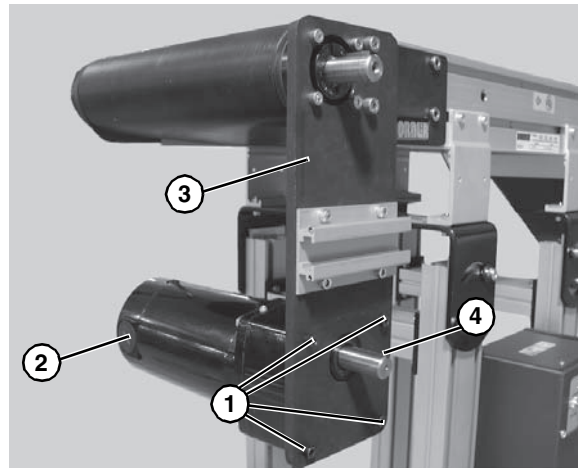

Figure 20
2. Remove four (4) screws (**Figure 20, item 1**). Detach motor (**Figure 20, item 2**) from the mounting plate (**Figure 20, item 3**). Retain motor output shaft key (**Figure 20, item 4**).
3. Install new motor using the four (4) mounting screws (**Figure 20, item 1**).